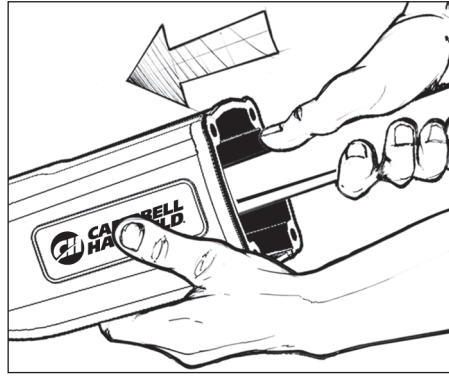

Figure 10 - Use handle of a tool
1. Push the piston assembly to the “down” position using the handle of a screwdriver, hammer, or other non-metallic handle with no sharp edges. (see Figure 10).